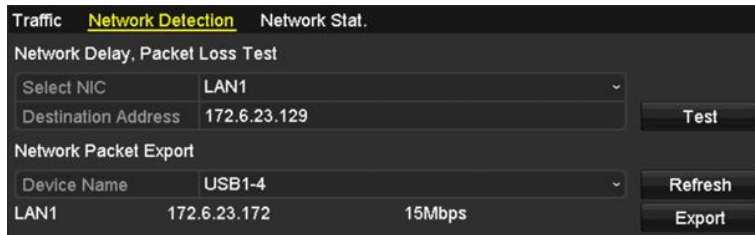

Figure 9-22 Export Network Packet
3. Select the backup device from the **Device Name** drop-down list, as shown in Figure 9-22.